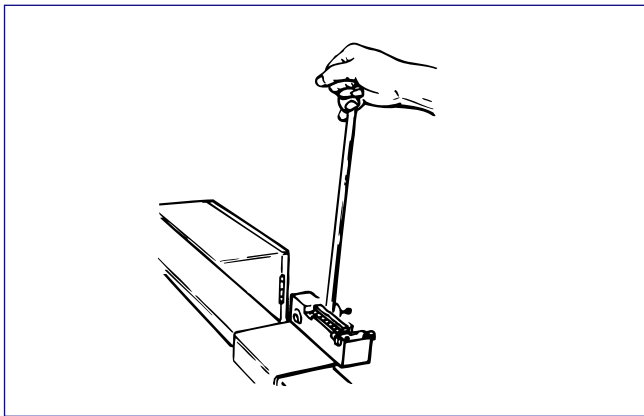

FIGURE 3-9, Remove Stones
1. Slide Movable Stop to OUT position (*see Figure 3-9*). Insert Stone Assembly with worn-out stone into fixture and pull lever toward you until stone is free from master stoneholder.